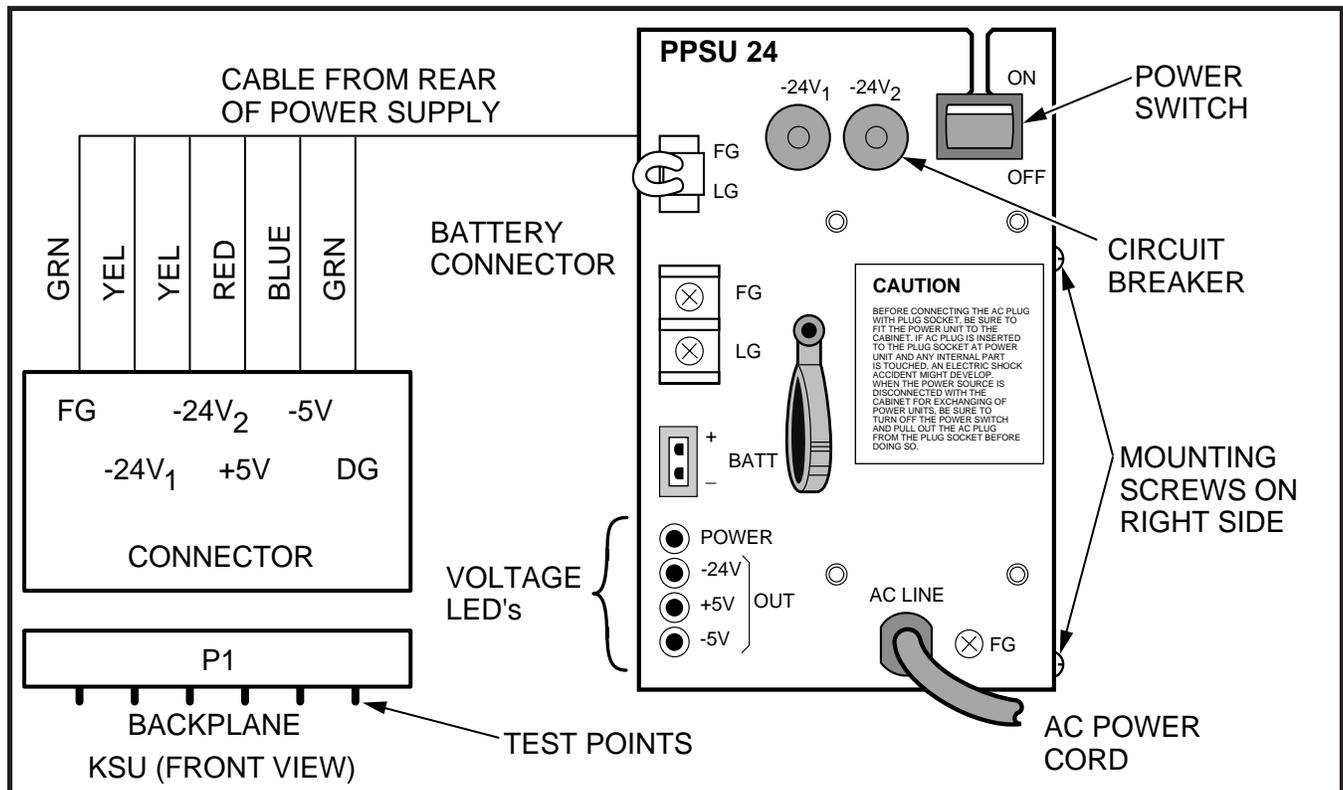

FIGURE 5-3
- Using a multimeter (set to the appropriate range), measure the voltages at the pins of the **DC OUT** connector for DK56/DK96 or the **P1** backplane connector for DK24 as shown in Figures 5-3, 5-4, or 5-5. Ensure that the voltages fall within the ranges specified. If a measured voltage falls outside of the acceptable range, remove the DC power plug from the power supply **DC OUT** connector (DK56/96) or **P1** backplane connector (DK24) and measure again. If a measured voltage is still unacceptable, replace the power supply. (Refer to Paragraph 4.)
4.11 DK24. Refer to Figure 5-3 and remove the power supply in accordance with the following steps:
4.21 DK24. Refer to Figure 5-3 and replace the PPSU24 in accordance with the following steps: